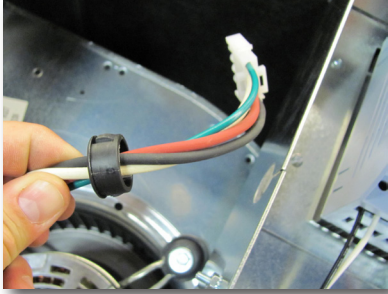

Fig. 10a
10. Plug in the 4-prong motor plug (male) into the female plug connector coming out of the WEG VFD. Ensure the cut star plug is opened and wrapped around the motor leads then snapped into the motor leads hole in the side of the circuit box. (Figs. 10a-10c)